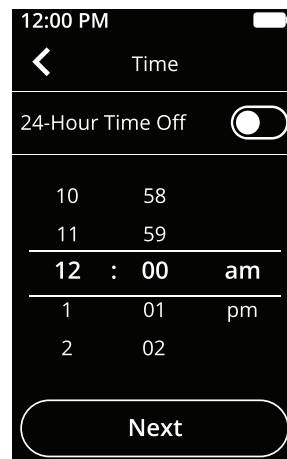

Figure 35
- Set the time to the current time and tap **Next** (see Figure 35).